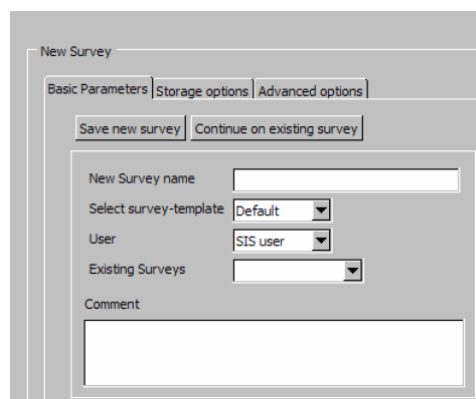

Figure 7: Basic parameters display
- **New survey name:** Select **Basic parameters** and enter a unique new survey name descriptive to the survey (Figure 7).
When finished, press **Save new survey** (Figure 7).